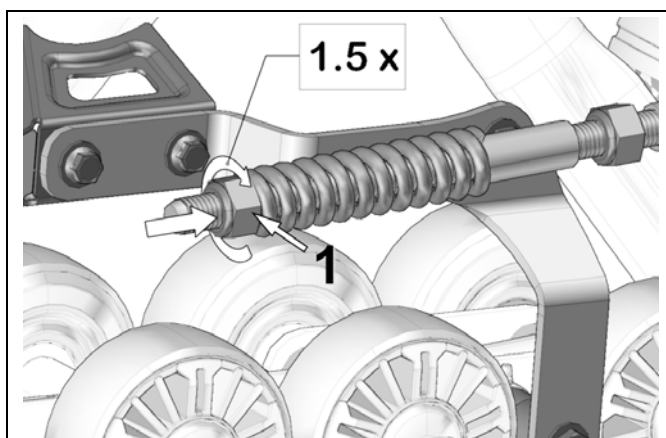

Figure 12
- Turn nut (1) until it comes in contact with the spring, then compress the spring by turning the nut 1 1/2 turns. See Figure 12.